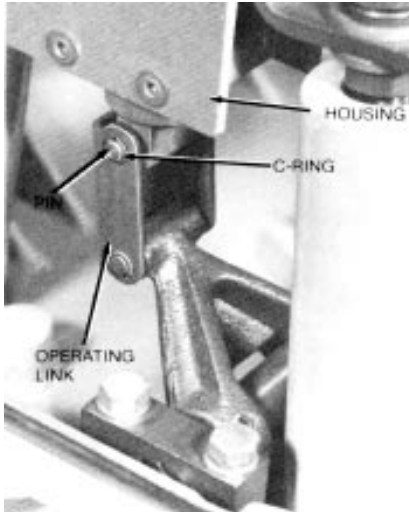

Figure 17.
- A. Disconnect the contact rod from the operating link by removing the C-ring and link pin. (Figure 17)